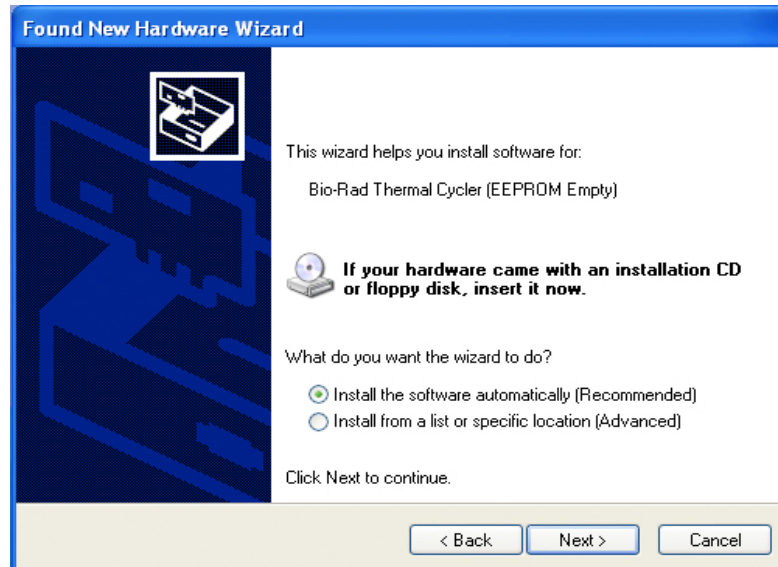

Figure 5. Software (Driver) installation screen.
5. Select **Install the software automatically** to install the Bio-Rad Thermal Cyclers (EEPROM Empty) driver. Click **Next** (Figure 5).